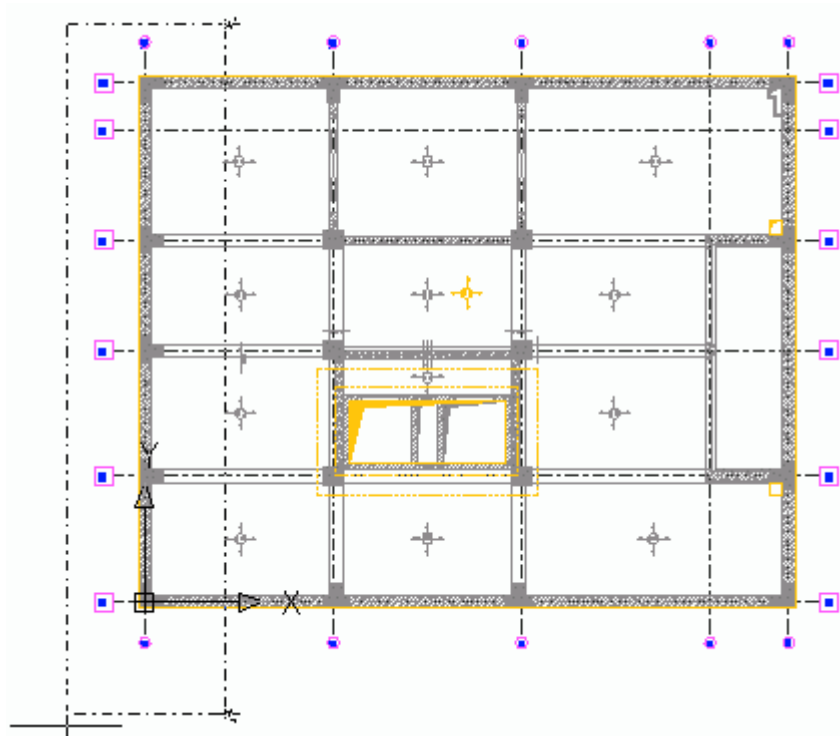

Figure 223: Creating the cut
4. Move the cursor in the **-X** direction to define the cut depth. Include the entire left part of the building as shown in Figure 223 and click a point.